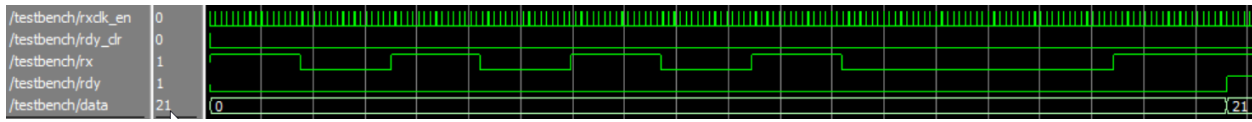

Figure 1: Sample simulation waveforms.
5. A screen capture of the simulation waveforms including at least the following signals: rxclk_en, rdy_clr, rx, rdy, and data. An example is shown in Figure 1.